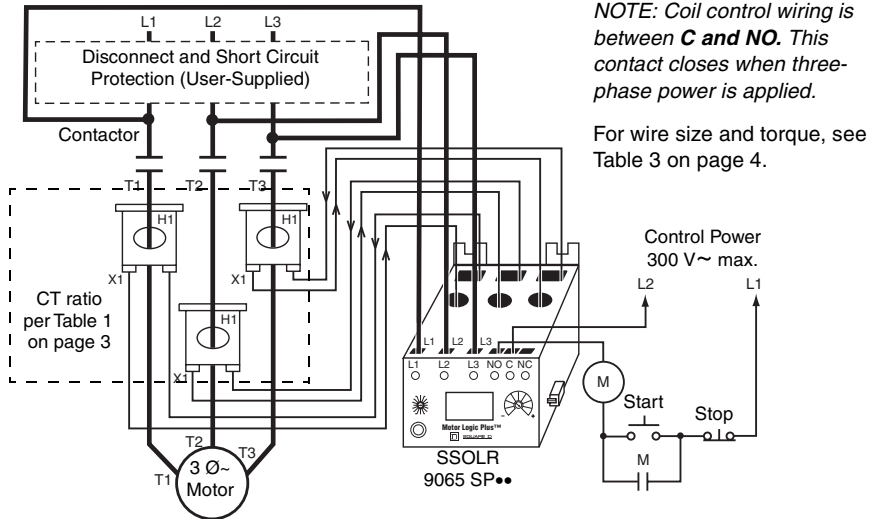

Figure 4: Wiring with Current Transformers (SP4•, SP5•, & SP6• only)
- If you are using current transformers (CTs), see Figure 4 on page 6.
External current transformers (CTs) are required for motors with full-load current above 90 A (Figure 4).